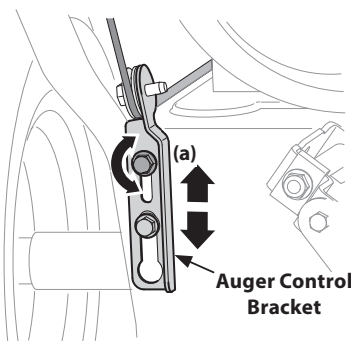
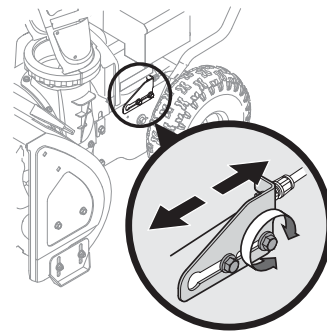

Figure 2-57
Figure 2-58
4. Allow auger to remain engaged for approximately ten (10) seconds before releasing auger control lever. Repeat this several times.
7. To readjust the auger control cable, loosen upper hex screw (a) on all on units except the E-Z Chute™ unit auger control bracket. See Figure 2-57.
8. On E-Z Chute™ models, loosen the rear hex screw on the auger control bracket. See Figure 2-58.
9. Position bracket upward on all units except the E-Z Chute™, push the adjustment bracket forward on those units to provide more slack (or downward/rearward to increase cable tension). See Figure 2-57 or Figure 2-58 depending on your unit.